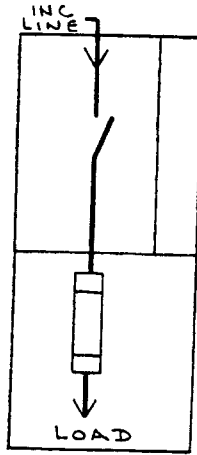

FIG. 2
- Single unit equipment - (Fig. 2)
2. Single Unit Equipment - Fig. 2